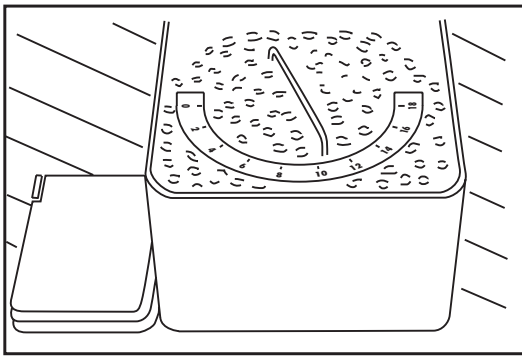

Fig. 8
- Adjust the grinding level to one of the following recommended settings (fig.8) :